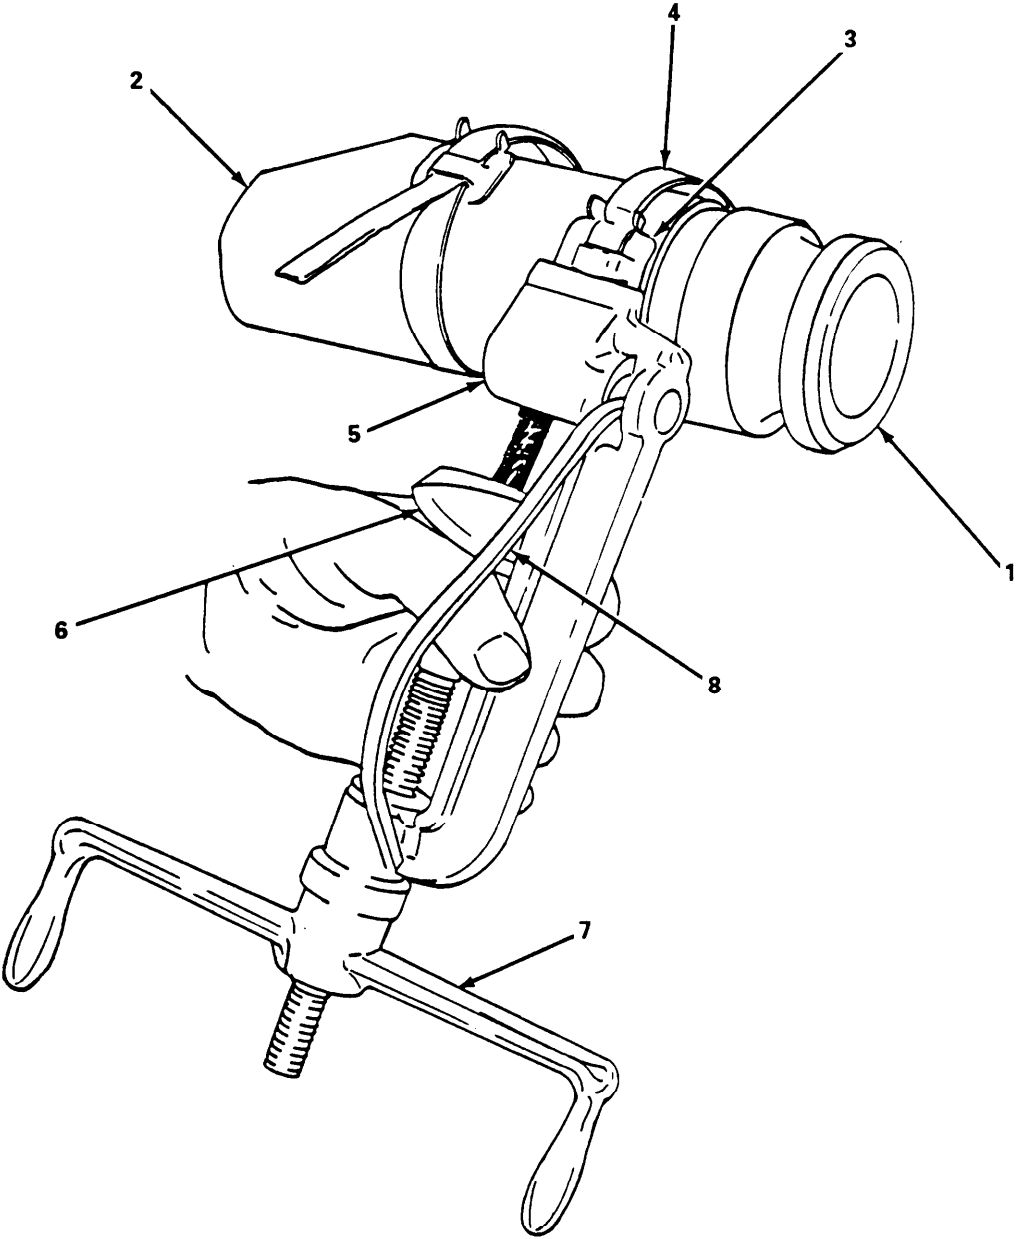

Figure 4-1. Installing Band on Hose Assembly.
a. *Repair.* (figure 4-1)
(1) Couplings. To replace a defective coupling, proceed as follows:
- (a) Cut band and remove damaged coupling (1).
- (b) Ensure static wire extends beyond end of hose (2) a minimum of 1/4 in. Install barbed end of new coupling in hose end. Ensure static wire is in contact with coupling.
- (c) Slide buckle (3) on banding material (4), bend approximately 1 in. of banding material under buckle. Wrap banding material around hose twice running end through each time.
- (d) Place band in open slot of banding tool nose (5) and in slide.
- (e) With thumb on band gripper lever (6), apply tension by turning handle (7) of tool clockwise. After tension is created, it is no longer necessary to hold band gripper lever as it locks itself under tension.
- (f) Place finger on banding material (4) at buckle bridge while tensioning with tool handle (7) in a clockwise direction.
- (g) When banding material stops moving through buckle (3) as handle (7) turns, stop turning. Maximum tension is exerted by banding material around hose.